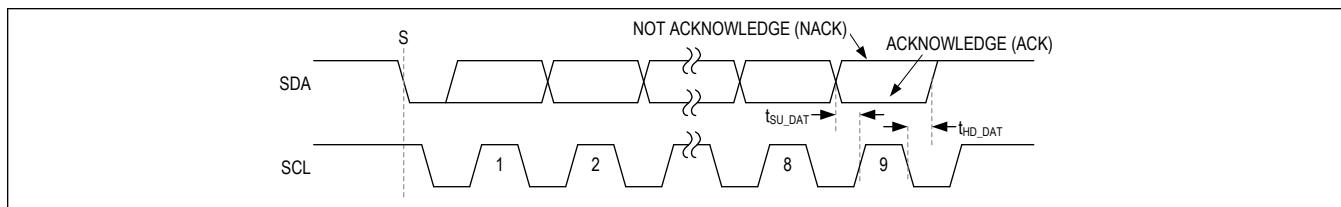

Figure 17. Acknowledge Bit
Both the I²C bus master and this device generate acknowledge bits when receiving data. The acknowledge bit is the last bit of each nine bit data packet. To generate an acknowledge (A), the receiving device must pull SDA low before the rising edge of the acknowledge-related clock pulse (ninth pulse) and keep it low during the high period of the clock pulse. See Figure 17. To generate a not-acknowledge (nA), the receiving device allows SDA to be pulled high before the rising edge of the acknowledge-related clock pulse and leaves it high during the high period of the clock pulse.